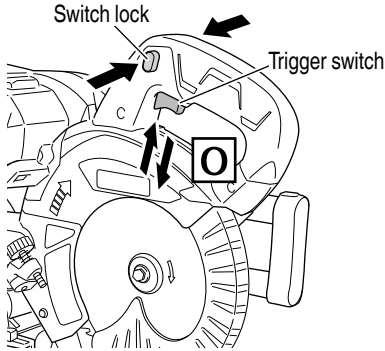

Fig. 26
(1) Turning the saw on (Fig. 26)